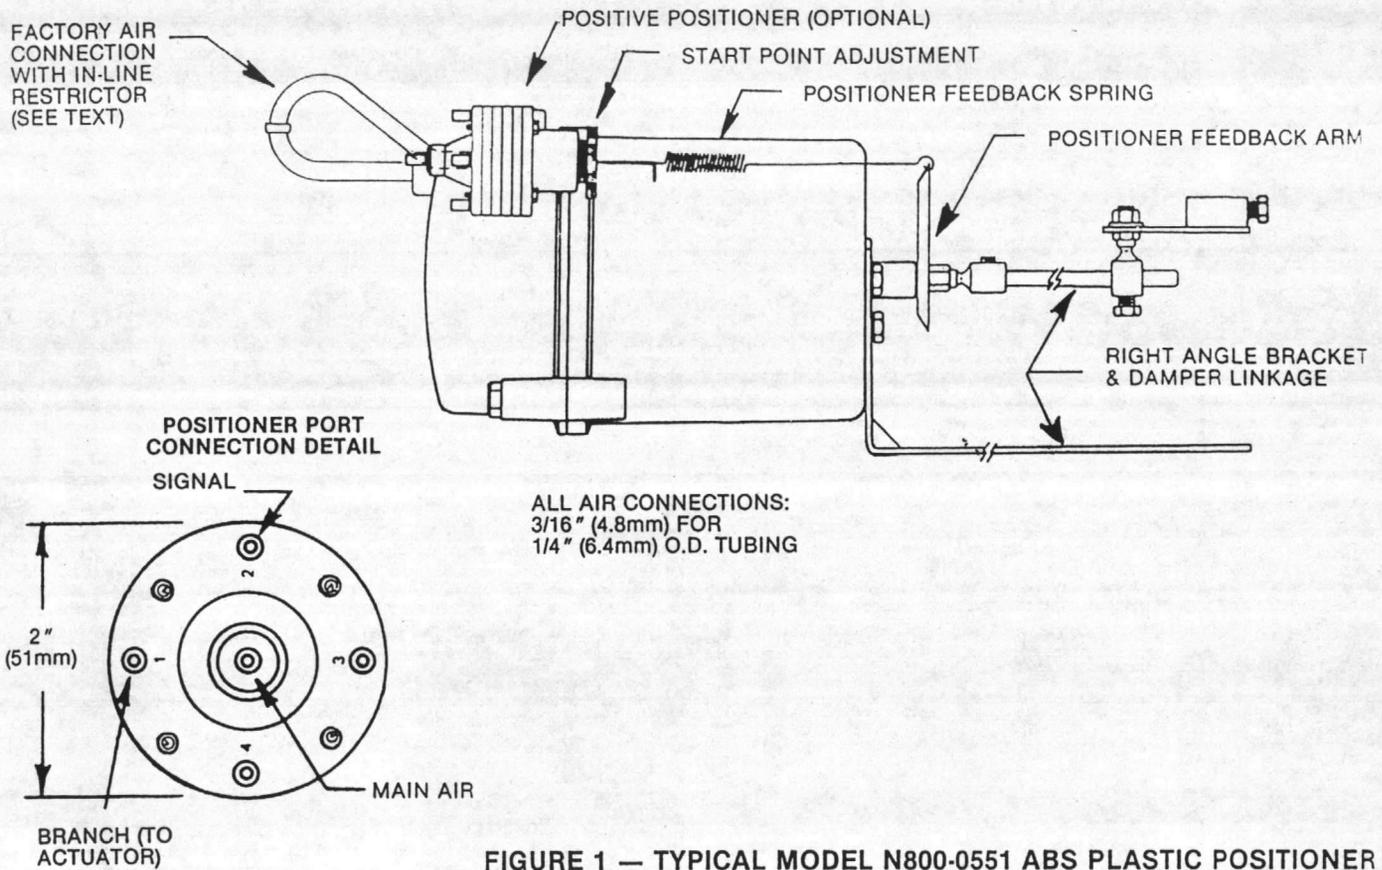

FIGURE 1 — TYPICAL MODEL N800-0551 ABS PLASTIC POSITIONER INSTALLATION (SHOWN ON M574 ACTUATOR).
Positive Positioner (Optional): Two models of positioners are used on these damper actuators, ABS plastic Model N800-0551 (see Figure 1) and cast zinc Model N800-0552 (see Figure 2). These positioners are similar in function and mounting arrangement; they differ only in the location of the start point adjusting screw and the location and type of air connections. Each requires a signal connection and a main air connection with a maximum pressure of 30 psig (207 kPa). The positioner output is factory-connected to the actuator signal port. (NOTE: On M573, M574 and M594 actuators, this connection is made through an in-line restrictor to damp possible oscillations due to the large air capacity of the positioner relay. It is not required on M556 actuators. The restrictor is included with positioners ordered separately.) Adjustments are as follows:
b. If the factory-calibrated operating range is not satisfactory or if an optional 3 psi (21 kPa) or 10 psi (69 kPa) span feedback spring is substituted, the stroke *start point* of the positioner may be adjusted by setting the signal pressure to the desired value and turning the "start point adjustment" (see Figures 1 and 2) by hand until the actuator shaft begins to move from its "normal" (zero pressure) position. The start point setting is adjustable from 3 to 12 psig (21 to 83 kPa).